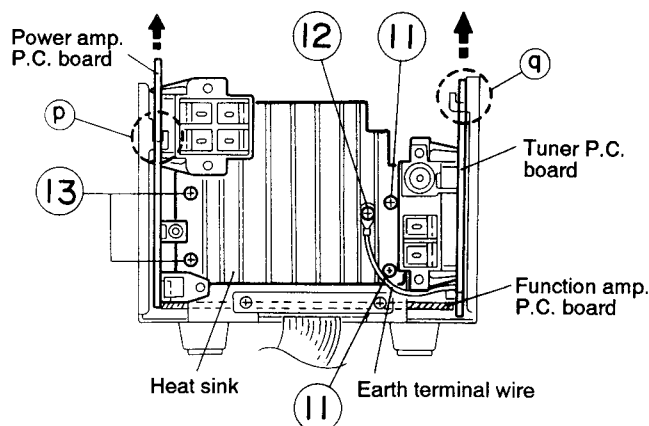

Fig. 5-32
■ Removing the power amp. P.C. board and heat sink (See Figs. 5-32 and 5-33)
1. From the back face of the body, remove the three screws { ⑪ x 2 and ⑫ x 1 } retaining the heat sink. For dismantling the heat sink alone, further remove the two screws ⑬.
2. While disconnecting the connectors CN301 and CN308 on the power amp. P.C. board respectively from the function P.C. board, remove the power amp. P.C. board upward, and disengage the engagement ⑨ between the chassis and P.C. board in arrow direction.
(See Figs. 5-32 and 5-33)